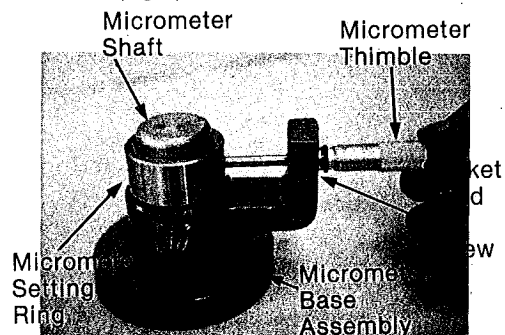

Fig 1 Proper adjustment of the Micrometer
3. If adjustment is necessary, loosen the socket head cap screw on the Micrometer Base Assembly. Hold the Micrometer in place and rotate the thimble of the Micrometer Base Assembly until a 2.00 inch reading is obtained. One rotation of the thimble is equal to 0.050 inch of travel. (fig 1).